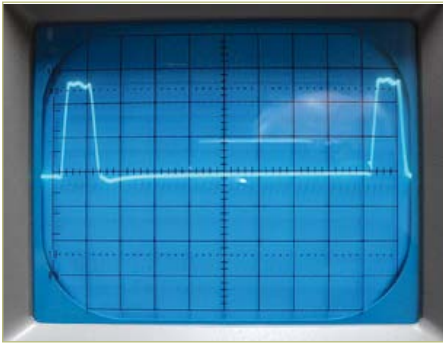

Figure 3. Pulse generator output.
**Figure 3** shows the generator’s output when fed directly into a scope and no cable. The scope was set to a vertical sensitivity of 5 volts per division, and a horizontal sweep speed of 0.1 μs per division,